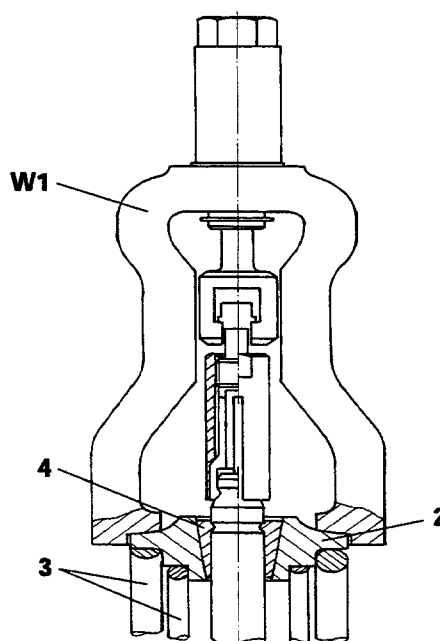

Fig. 1
Sequence of operations: (Fig. 1)
- 1.5 Remove valve spring compressor (**Fig. 1/W1**), spring plate (2), internal and external valve springs (3) as well as valve turning device from the cylinder cover.